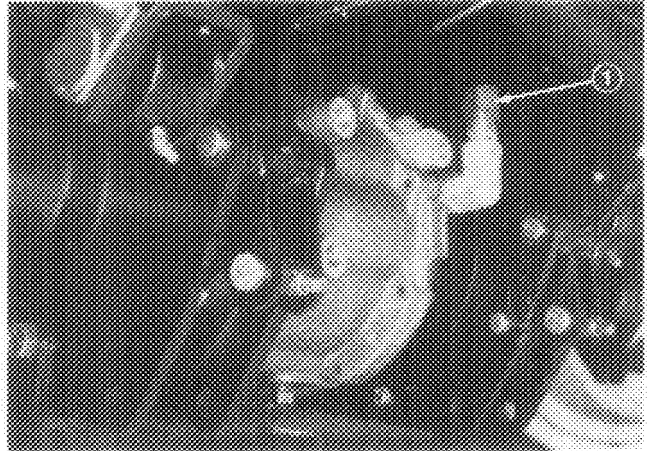

Figure 7
3. Unscrew dipstick cap (Fig. 7) from the filler neck and wipe it with a clean rag. Screw dipstick cap finger tight onto filler neck. Unscrew the dipstick and check level of lubricant. If level is not within 1/2 inch from the groove in the dipstick, add enough to raise level to groove mark. **DO NOT OVERFILL** by more than 1/2 inch above groove.